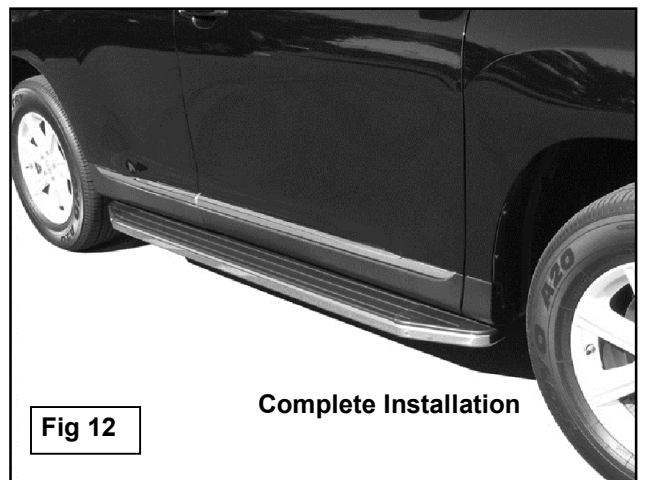

Fig 12
- b. Next, check for level to the ground, side to side only, (**Figure 12**). If the outside edge of the running board is tilted down, tighten the long 10mm x 50mm Hex Bolts on the back of the (2) Mounting Brackets evenly until the Running Board is level. If the Running Board is tilted up, loosen the Hex Bolt in the Support Plate a little until the Running Board is level. If the Support Plate is loose and the Board is still not level, loosen the Brackets completely and move them up or down on the body panel until the Board is properly adjusted. Once level, tighten all hardware.